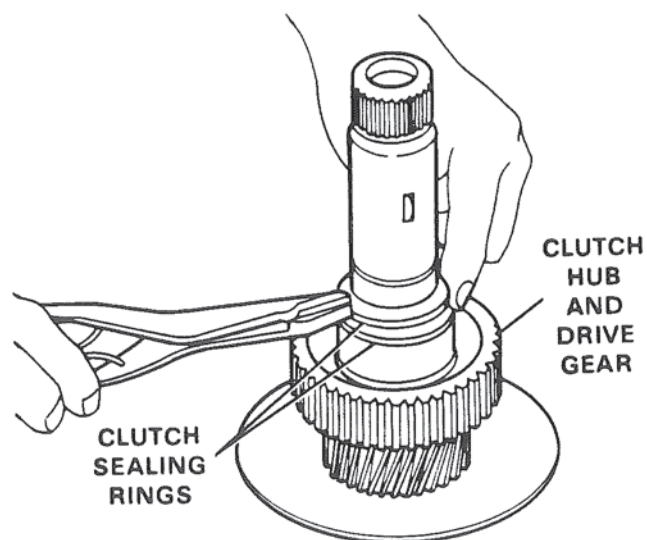

Figure 62. Installing Forward Clutch Sealing Rings onto Drive Gear.
6. Install two (2) forward clutch sealing rings in grooves provided on drive gear. Figure 62. After installing rings in groove, hook ends and turn rings to insure freedom of rotation.